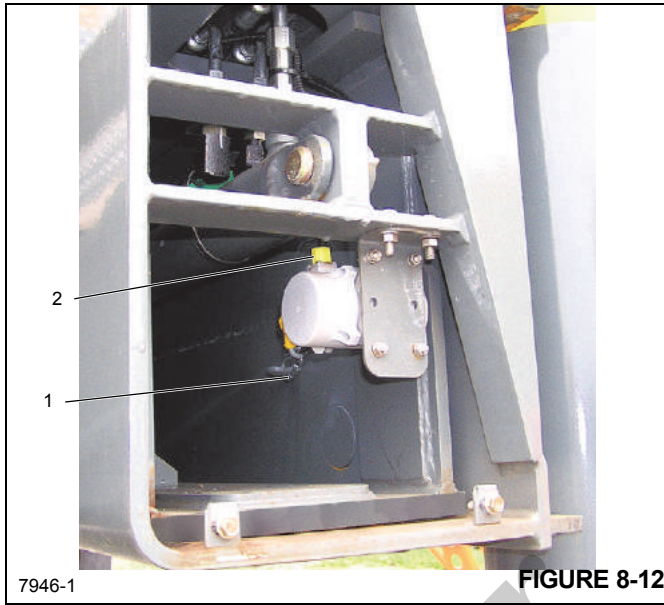

FIGURE 8-12
2. Remove the OMS string potentiometer connector (1, Figure 8-12) from the attaching point on the outrigger beam.
2. Install the OMS string potentiometer enough to engage slotted hole with top mounting hardware (Figure 8-12).